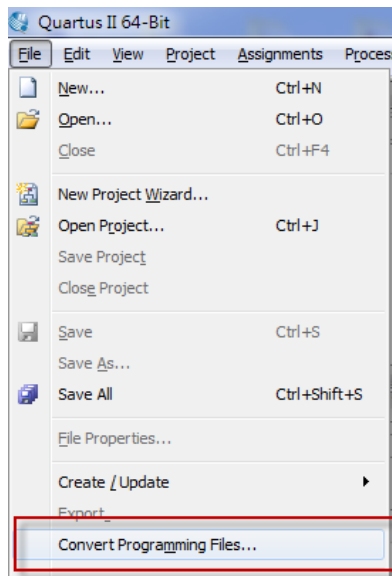

Figure 8-1 File menu of Quartus II
1. Choose **Convert Programming Files** from the File menu of Quartus II, as shown in **Figure 8-1**.